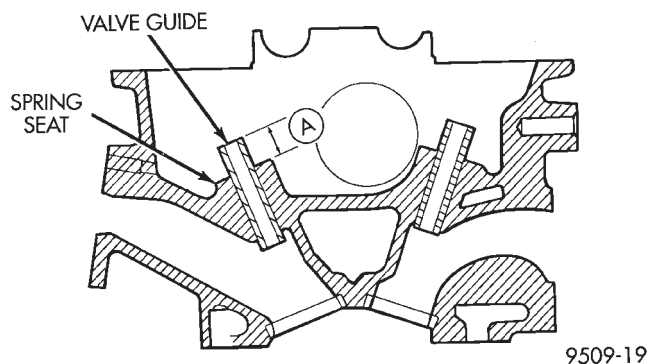

Fig. 104 Valve Guide Height
- (3) Check valve guide height (Fig. 104).